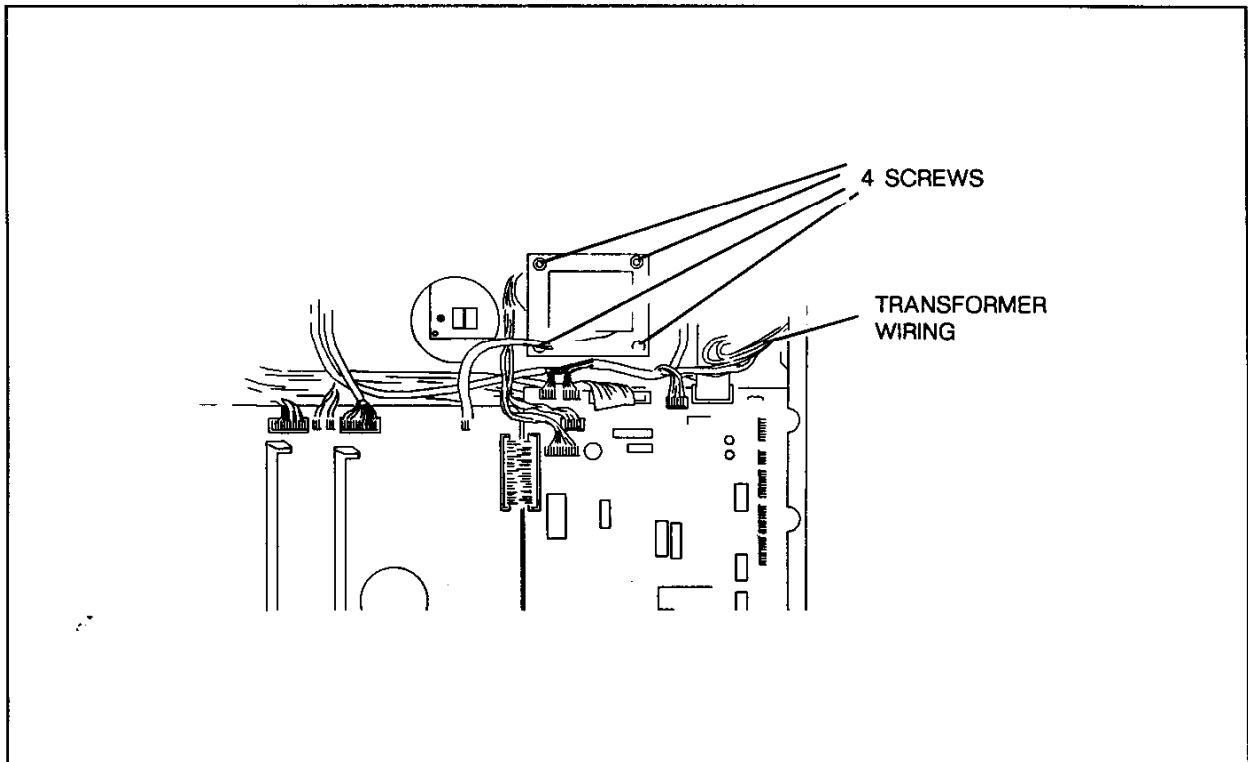

Figure 6-13. Transformer Removal
- a. Turn the plotter line switch to OFF (O) and disconnect the ac power cord.
- c. Disconnect the transformer cable and wiring. See Figure 6-13. When reconnecting, refer to the cabling diagram Figure 9-1.